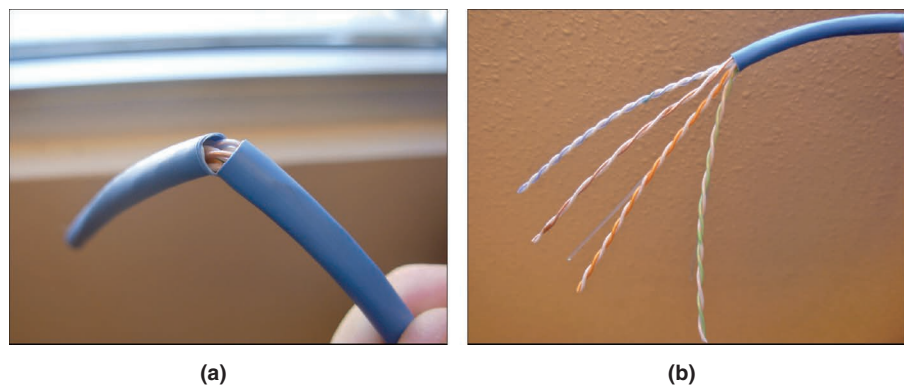

FIGURE 2-15 (a) Separating the cut jacket from the wire pairs and (b) removing the jacket and exposing the four wire pairs.
4. Remove the jacket from the UTP cable. Bend the cable at the cut, as shown in Figure 2-15(a), and remove the jacket to expose the four wire pairs, as shown in Figure 2-15(b).